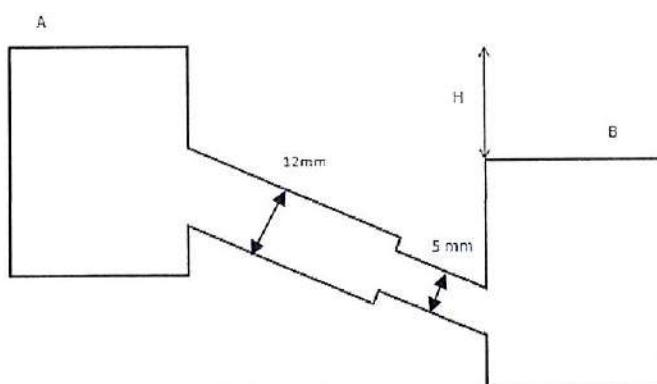

Figure 3 / Rajah 3
- b) In **Figure 3**, two reservoirs have a difference in level of H is 8 m and are connected by a pipe line, which is 40 mm in diameter for the first 12 m and 25 mm for the remaining 5 m. Calculate the discharge of flow in m^3/s if the coefficient of friction, $f = 0.001$ for both pipes and coefficient of contraction. $C_f = 0.66$.